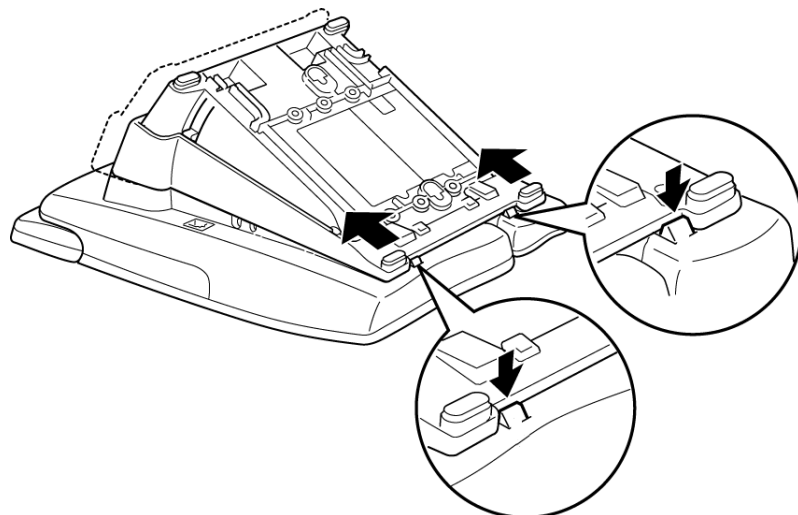

Figure 5-3: Removing the Multiline Terminal Base Plate
3. Press down on the tabs indicated in *Figure 5-3: Removing the Multiline Terminal Base Plate*, and push forward on the base plate to remove it.